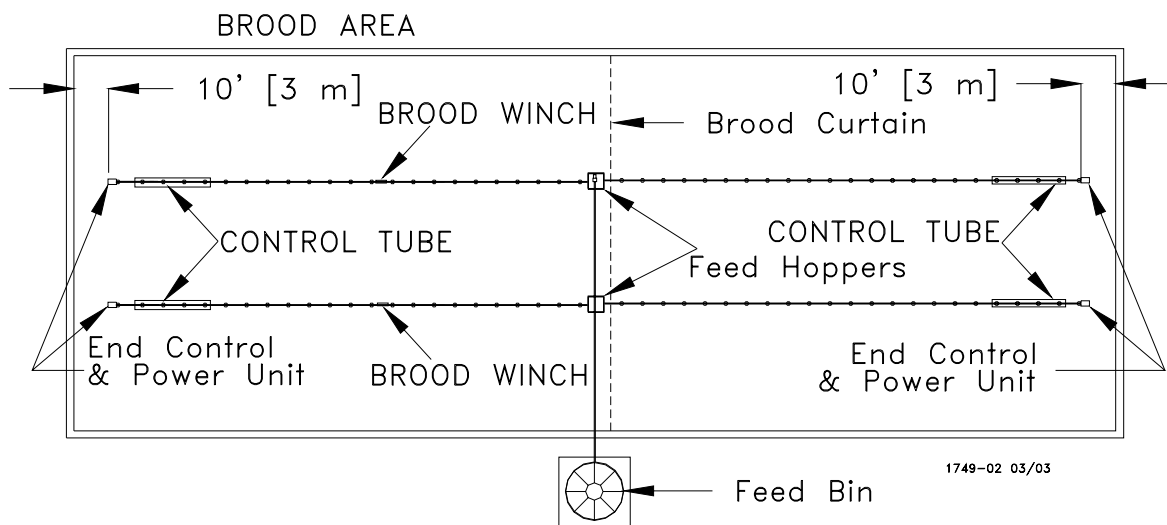

Figure 2. Component location diagram for systems over 400 feet [122 m]. (Top View).
B. Systems with line lengths over 400' [122 m] should be split in the center, as shown in Figure 2.. This will reduce auger running time and eliminate the need for Mid-Line Controls for partial house brooding.